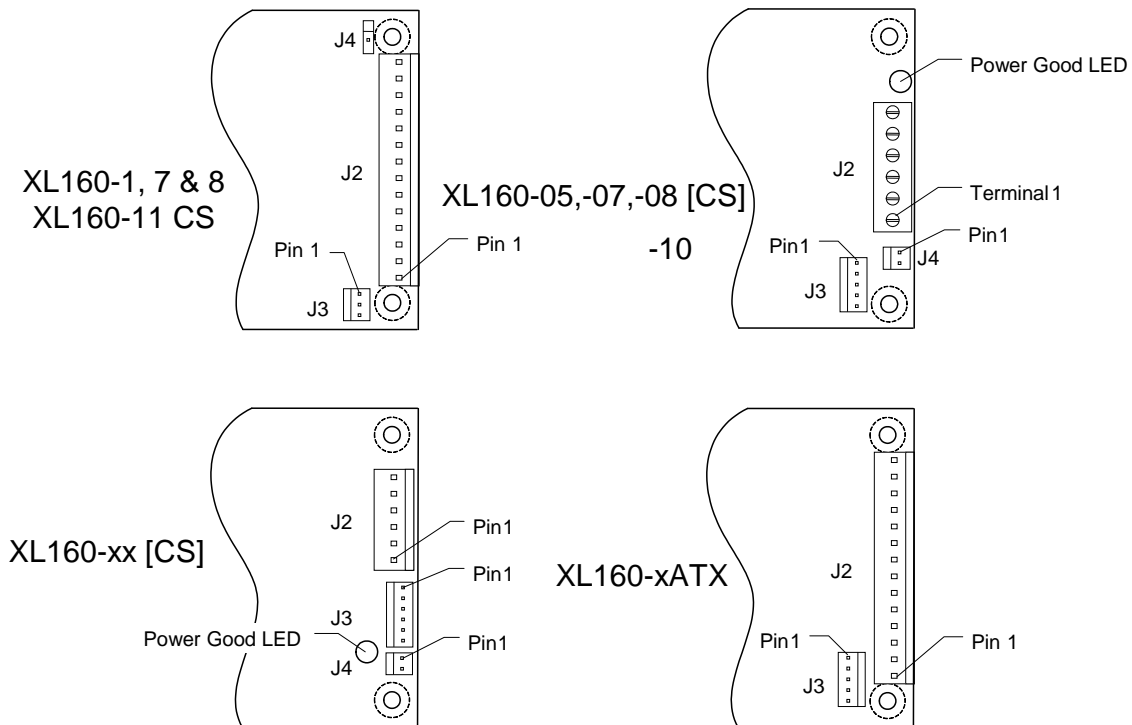

Figure 4-3 XL160 Output Connectors Layouts
The pin-1 location differs amongst connector manufacturers. Sometimes pin-1 differs between the header (on the power supply) and the mating housing from the same manufacturer. Disregard the manufacturer's pin-1 location and follow only the pin-1 locations in Figure 4-3.
- Refer to Figure 4-3 for connector and pin-1 locations
A green LED on XL160-05 [CS], -07 CS, -08 CS, and XL160-xx [CS] models illuminates whenever the Power Good signal is true (high). See Figure 4-3 for the LED location near the output connector.